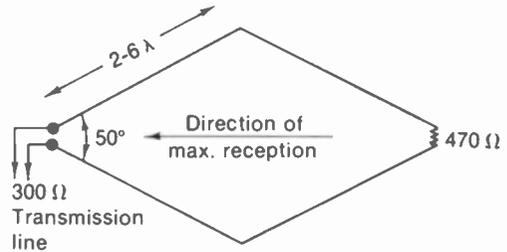

FIGURE 25-12 LONG-WIRE RHOMBIC ANTENNA.
**Rhombic antenna.** A more efficient arrangement is the rhombic antenna shown in Fig. 25-12, which consists of two horizontal V sections. To make it unidirectional, the rhombic antenna can be terminated with a resistor of  $470\ \Omega$ , for an approximate match to  $300\text{-}\Omega$  transmission line. Both the V and rhombic antennas are mounted horizontally for horizontal polarization as television antennas. Each leg should be at least two wavelengths at the lowest operating frequency, the gain and directivity of the antenna increasing with the length. The angle of  $50^\circ$  is a compromise value suitable for leg lengths of 2 to  $6\lambda$ . Longer legs should have a smaller angle.1